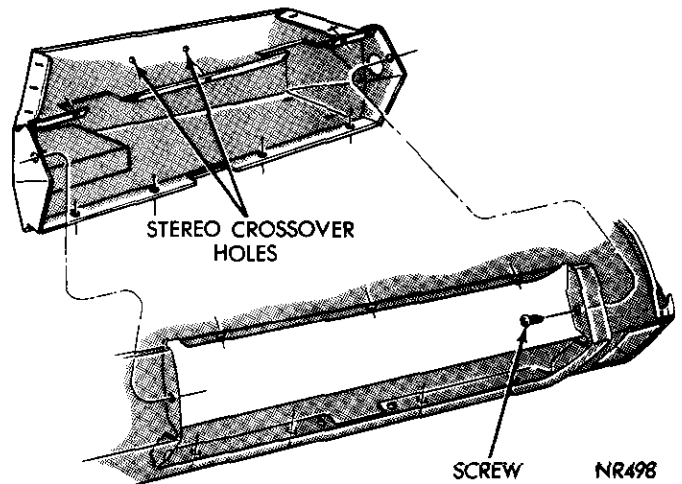
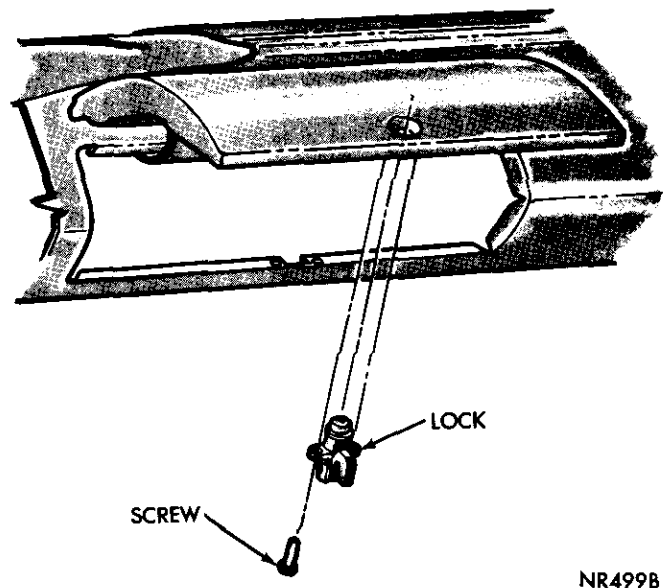

Fig. 10—Glove Box Attachment—(Coronet-Charger)
Fig. 11—Glove Box Door—(Coronet-Charger)
The *Coronet-Charger* glove box (Fig. 10) are one piece folded units. Hinges for glove box doors are positioned through openings in instrument panel and are attached to the doors with screws (Figs. 11 and 12).
- (1) Remove glove box door from hinge (Figs. 11 and 12).
- (2) Remove top and side attaching screws and remove glove box from rear of instrument panel.